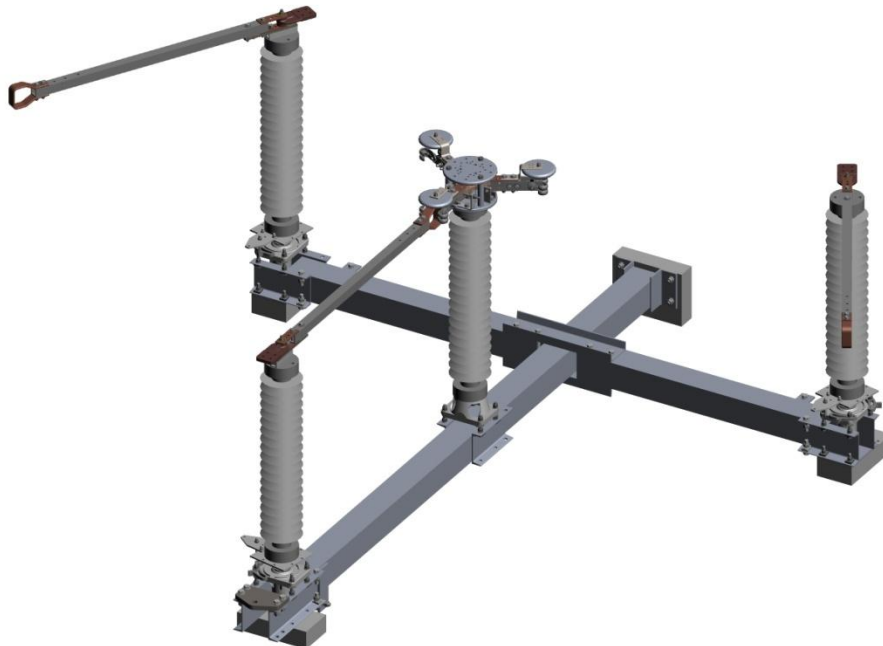

Figure 5: Both Base Members Unfolded
3) Repeat with the other switch base member. See Figure 5.